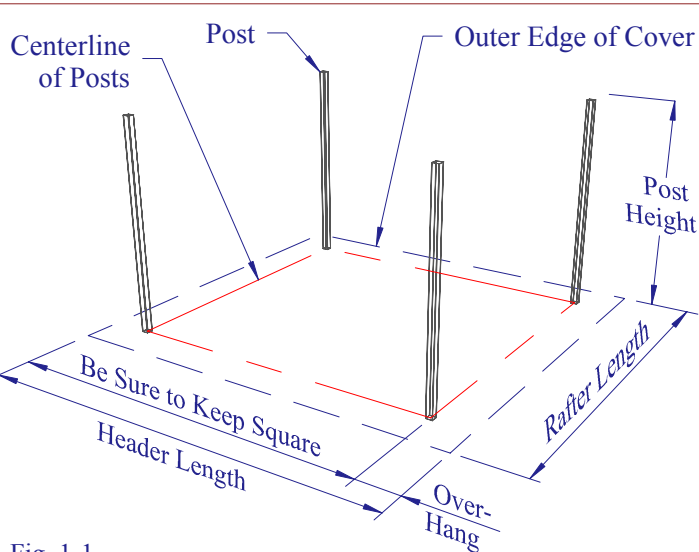

Fig. 1-1
-Locate the center of the posts by subtracting the desired overhang from the overall dimensions and snap four chalk lines accordingly (see Fig. 1-1). NOTE: If drawings were received with your order, use those as the guide.